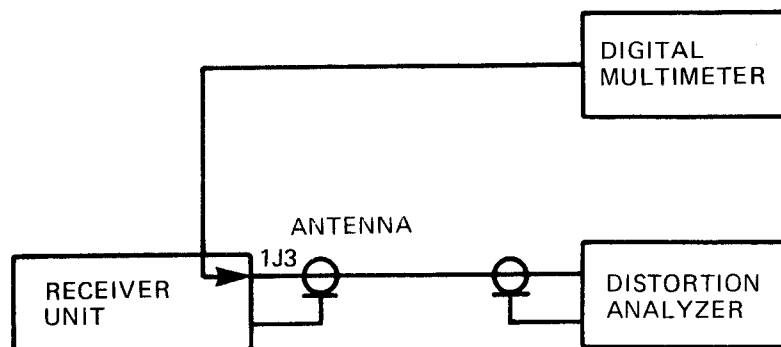

Figure 4-4. Antenna Drive Level Test Setup
- (a) Connect test equipment to receiver as shown in figure 4-4.
4.6.2 DC Voltages and Waveforms. - Receiver test point voltages and waveforms, and the conditions for performing these measurements are given in table 4-4 and figure 4-8, respectively. The test points are identified in figure 4-4. Since the equipment control settings for making measurements may differ from one test point to another, note the measurement conditions given.